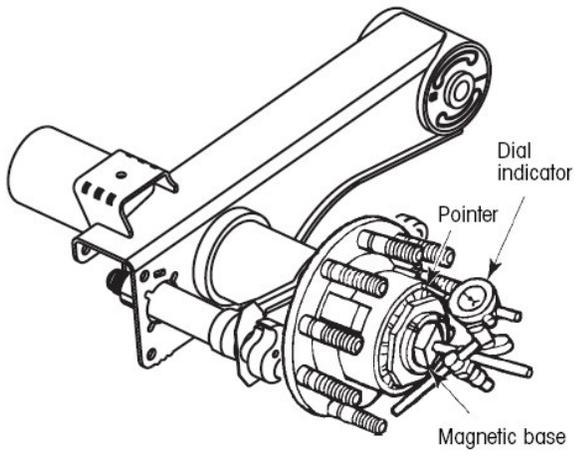

Figure 5
1. Attach the magnetic base of a dial indicator to the hub or brake drum. *See Figure 5*